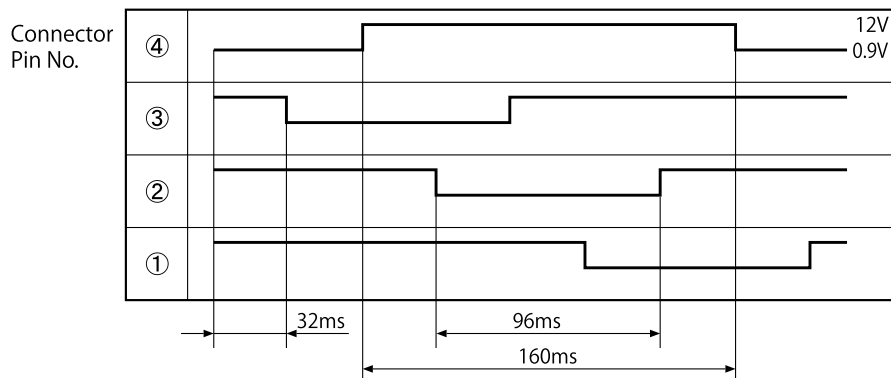

Fig. 5-2
- The relationship between the switching direction of the current phase and the open/close direction of the valves is shown in the following table. When current is applied, approximately 0.9V passes through pins ①-④ of CN15, CN19, CN26 and CN27; when no current is applied, it is approximately 12V. When the power is reset, the expansion valve is initialized for approximately 70 seconds. During initialization, use a tester to measure pins ①-④ on CN15, CN19, CN26 and CN27. If there is a pin that does not change at approximately 0.9V or 12V, there is an abnormality in that expansion valve or the main microcomputer.
- The logic waveform for when an expansion valve operates is shown in Fig. 5-2.